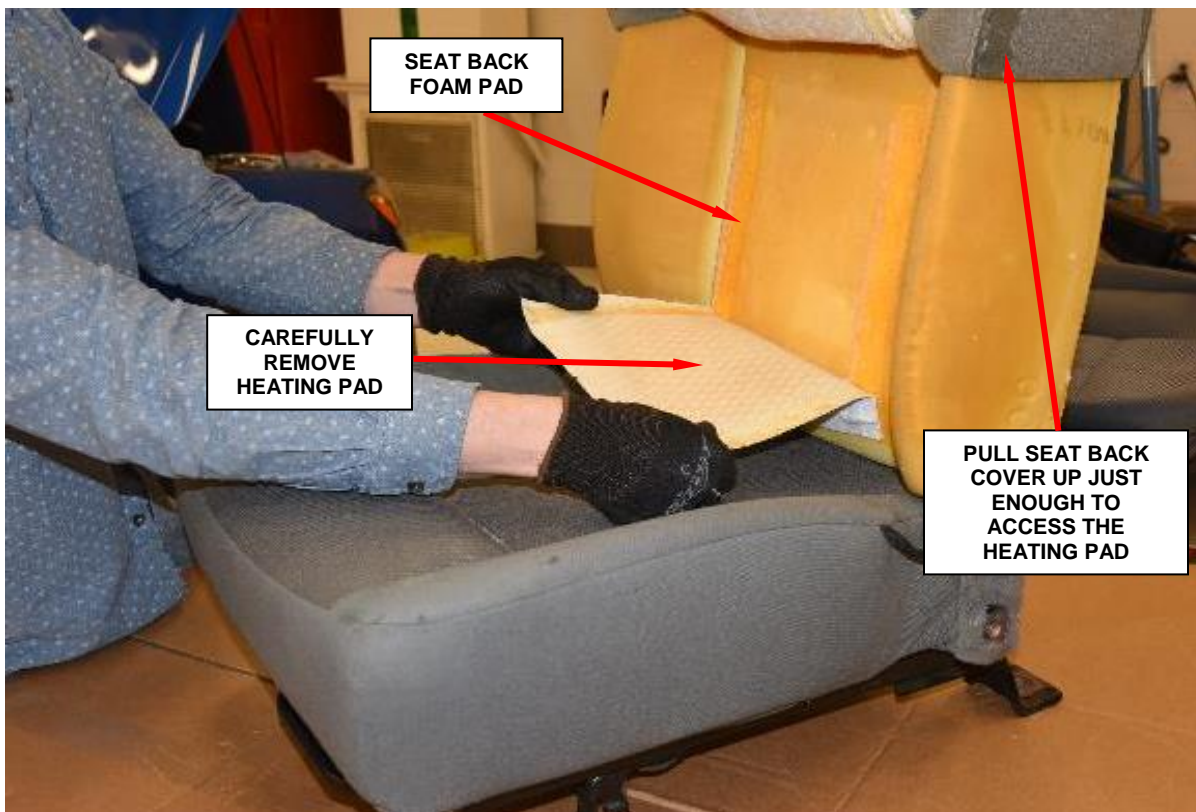

Figure 12 – Seat Back Heating Pad
5. Separate the J-straps and pull the cover up over the frame (Figure 12).
7. Remove the heating pad by peeling it off the foam pad, being careful not to remove excessive foam in the process (Figure 12).